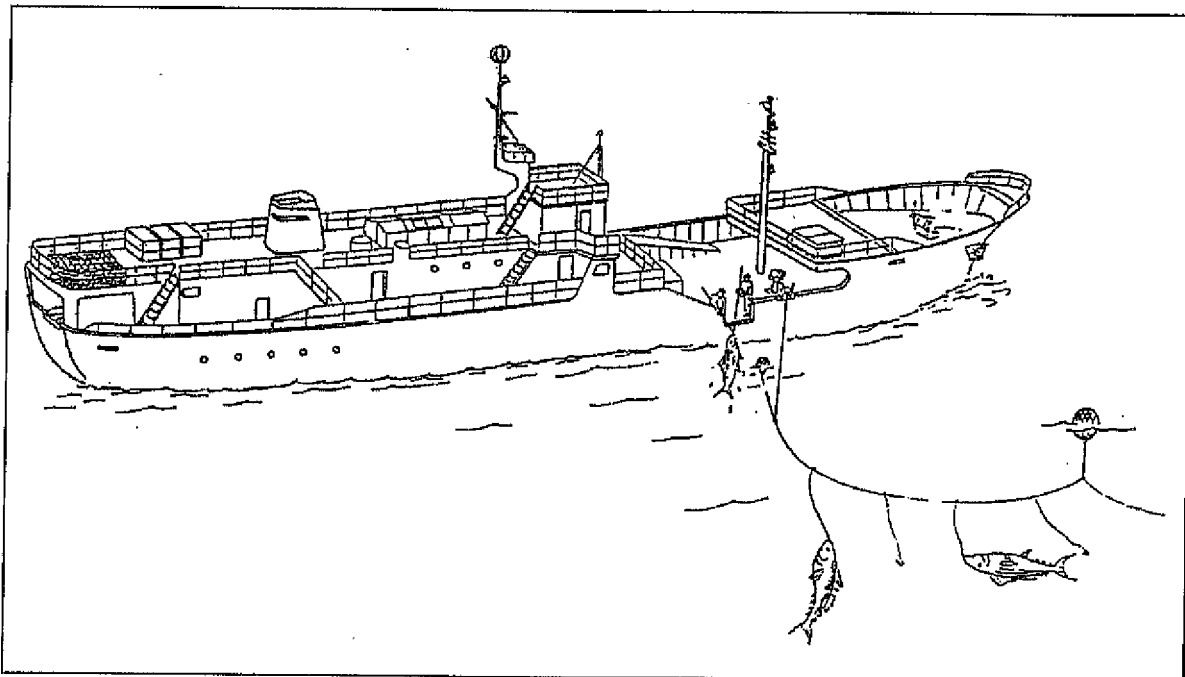

Fig 2.15 General Arrangement of a Tuna Long-Liner
- The general arrangement of a Japanese Tuna long-liner is shown on Figure 2.15